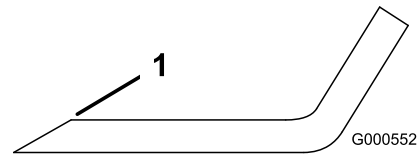

Figure 78
1. Use a file to sharpen the cutting edge at both ends of the blade (Figure 78).
**Note:** If the blade is not balanced, file some metal off the end of the sail area only (Figure 78).